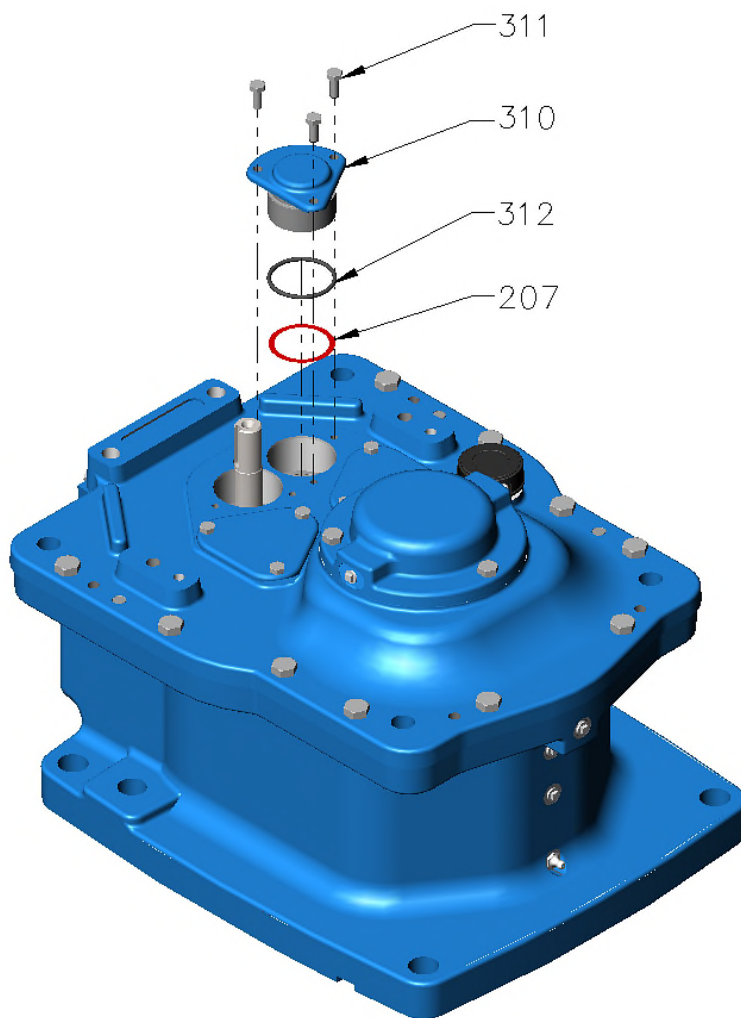

Figure 3 – 1st Intermediate Cap
C. At 1st intermediate shaft, remove the following items (refer Figure 3):